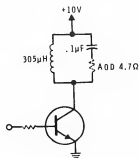

Figure 4-92
11. Turn off your ET-3100 Experimenter. Add a 4.7Ω resistor in series with the capacitor in the tank circuit as shown in Figure 4-92. This series resistance increases the effective (DC) resistance of the tank. This should _____ the number of tank oscillations.